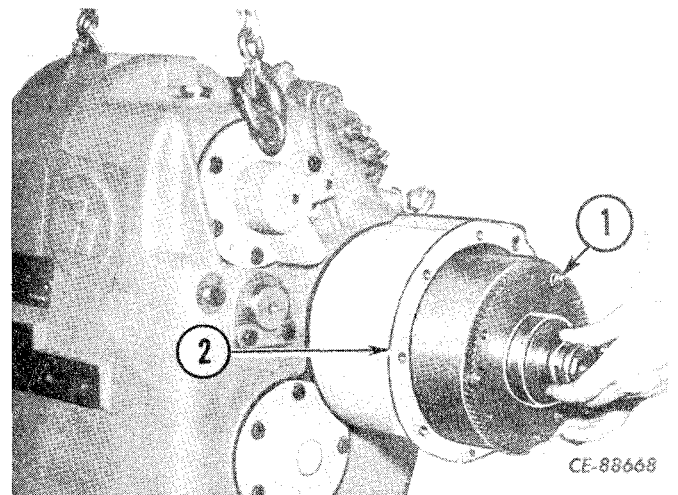

Figure 4-93
Install the 1st speed clutch pack assembly (1, Fig. 4-93) in the housing (2).